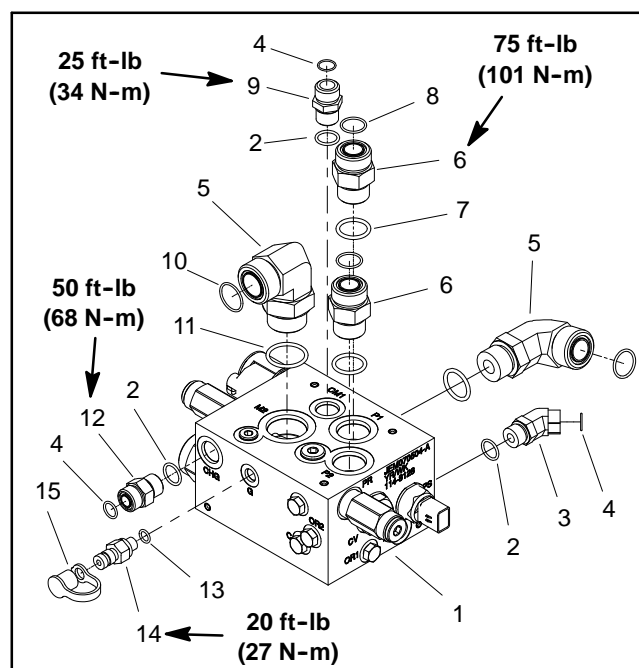

Figure 60
6. If hydraulic fittings are to be removed from control manifold, mark fitting orientation to allow correct assembly (Figure 60 or 61). Remove fittings from manifold and discard O-rings.
1. If fittings were removed from control manifold, lubricate and place new O-rings onto fittings. Install fittings into manifold ports using marks made during the removal process to properly orientate fittings. Tighten fittings (see Hydraulic Fitting Installation in the General Information section of this chapter). Refer to Figure 60 or 61 for fitting installation torque.